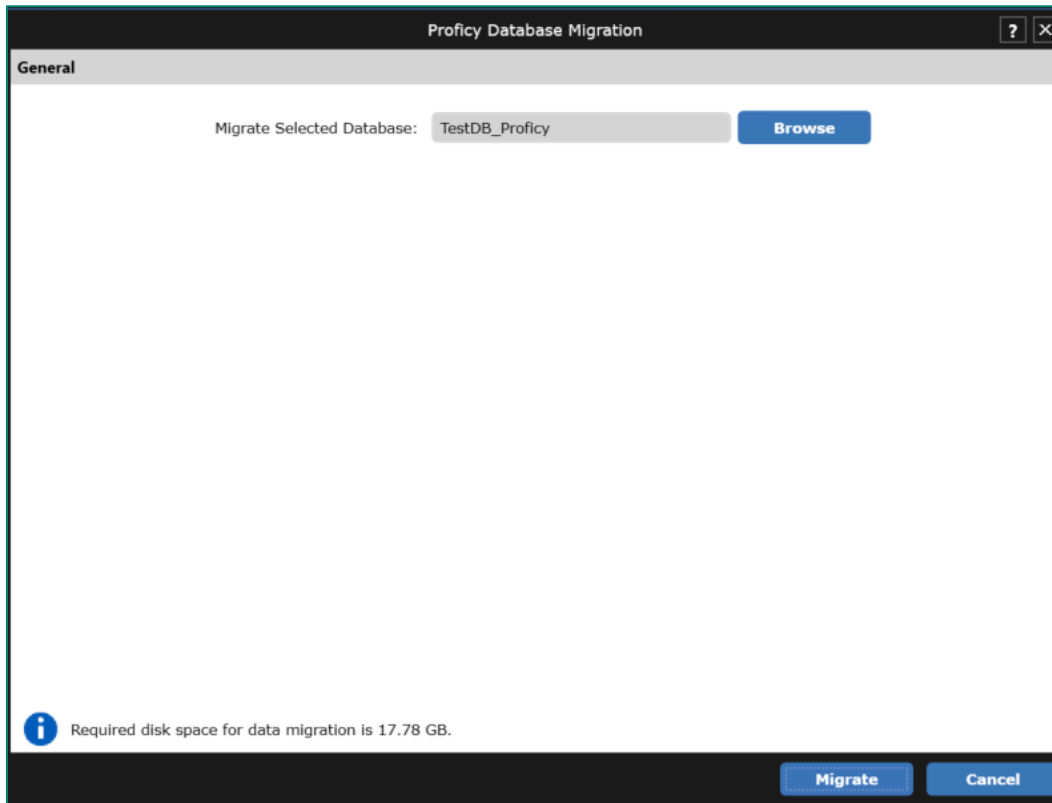

Figure 7: Proficy Database Migration – Browse Database
- Browse and select the desired System 1 Database and click on Migrate (Figure 7)